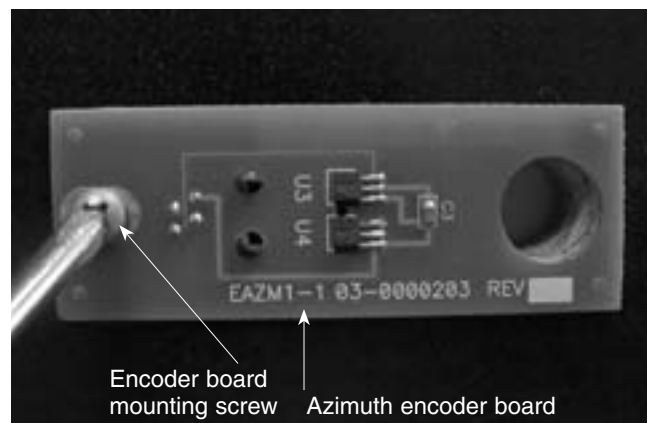

Figure 3. Installing the azimuth encoder board. Line up the large hole in the encoder board with the central hole in the top baseplate.
5. Attach the azimuth encoder board (E) to the underside of the top baseplate (D) (Figure 3). Insert the modular jack on the encoder board into the square-shaped hole in the baseplate and align the encoder board so that the small slotted hole in the board lines up with the predrilled starter